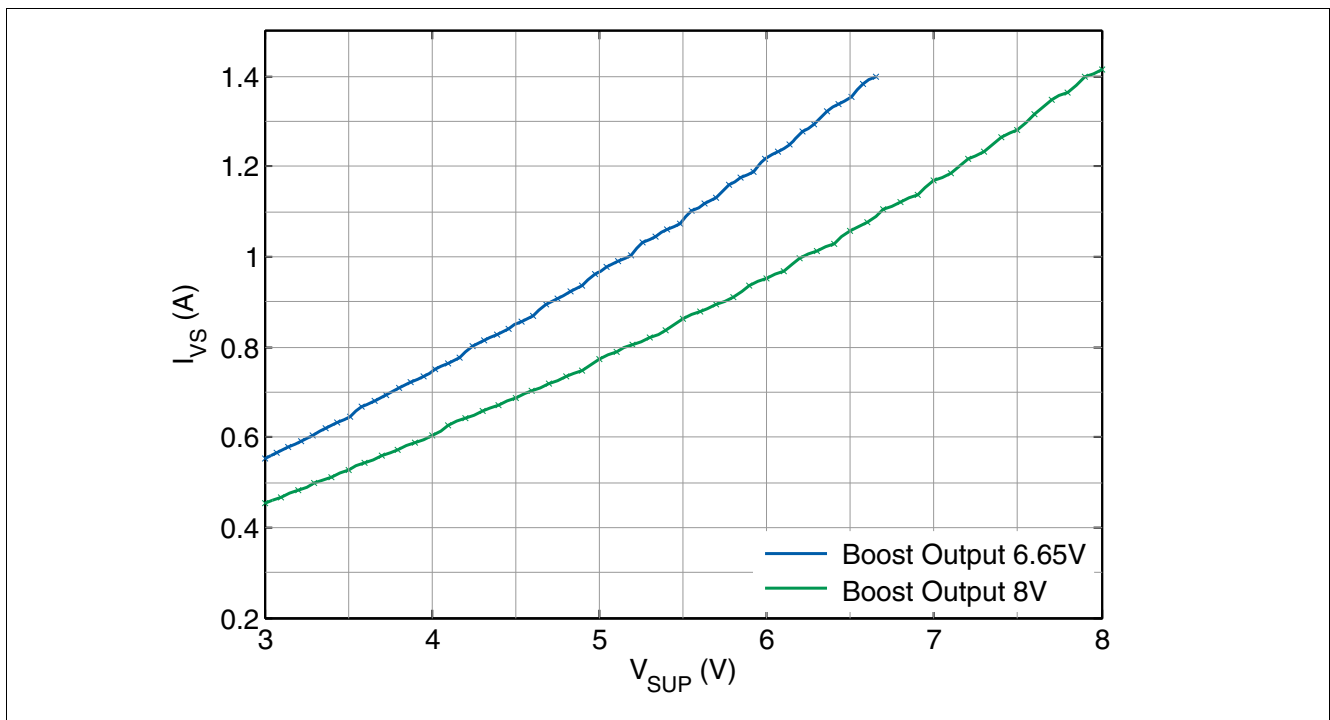

Figure 13 Maximum DCDC Boost current capability versus VSUP(TLE9271..3QX version).
3) Values verified in characterization with Boost converter specified in Chapter 15.1. Not subject to production test; specified by design. Refer to Figure 13 for additional information.
Note: **Figure 13** is based on simulation results (specified by design), with Boost converter external components specified in **Chapter 15.1**.